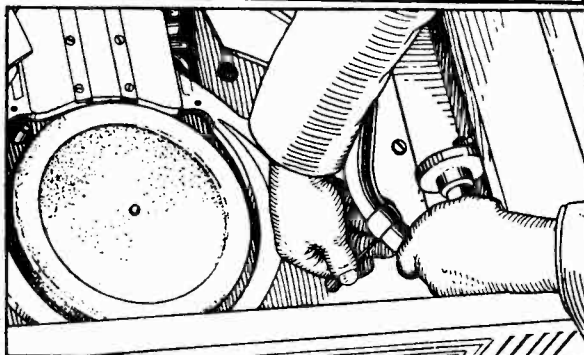

Fig. 3—Adjusting Crook Stop
- b. Examine the sound box or pickup crook stop. Loosen the lock nuts and turn the stop screw, which is an eccentric, until the proper lowering has been obtained. Re-tighten the lock nut when the proper lowering has been obtained. See Fig. 3.